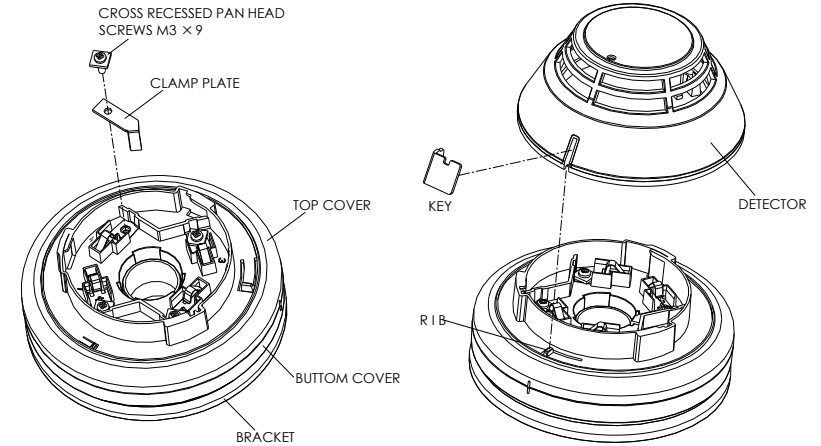

Fig 6
4. If the Sounder Beacon Base is required to be tamper-proof, fix it with cross recessed pan head screws M3×9 through tamper-proof hole, and the detector is prevented from disassembly by structural changes (see Fig 6).